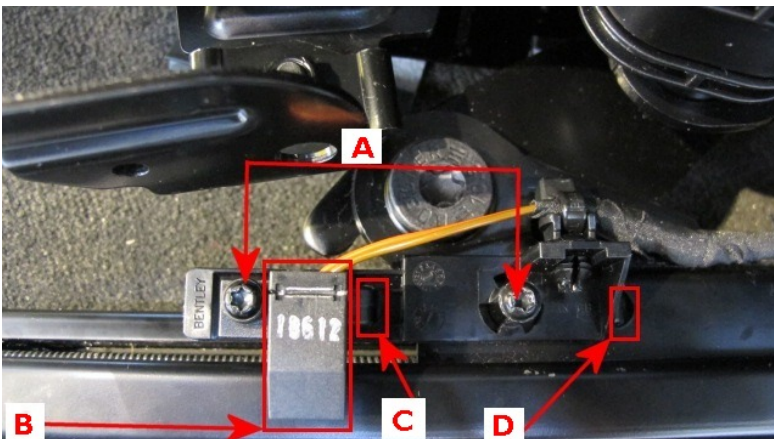

Figure 4
- Referring to Figure 4 - Point A - Change the proximity sensor screw and sensor bracket screw using part number N907 321 03